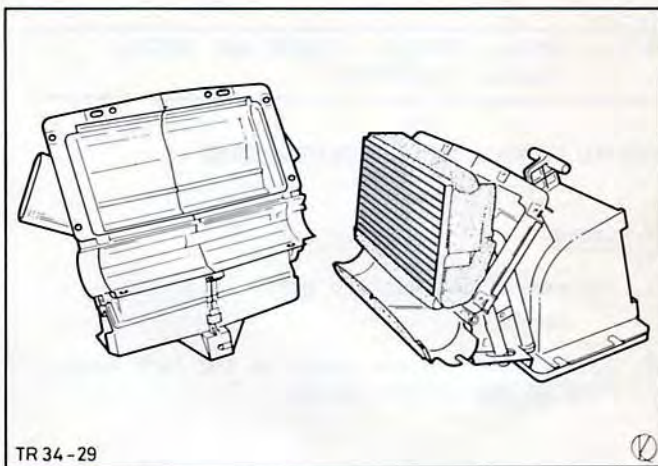

Fig.25. Screw casing lower and upper parts together.
8. Screw the lower and upper parts of the casing together (8 screws), Fig.25.